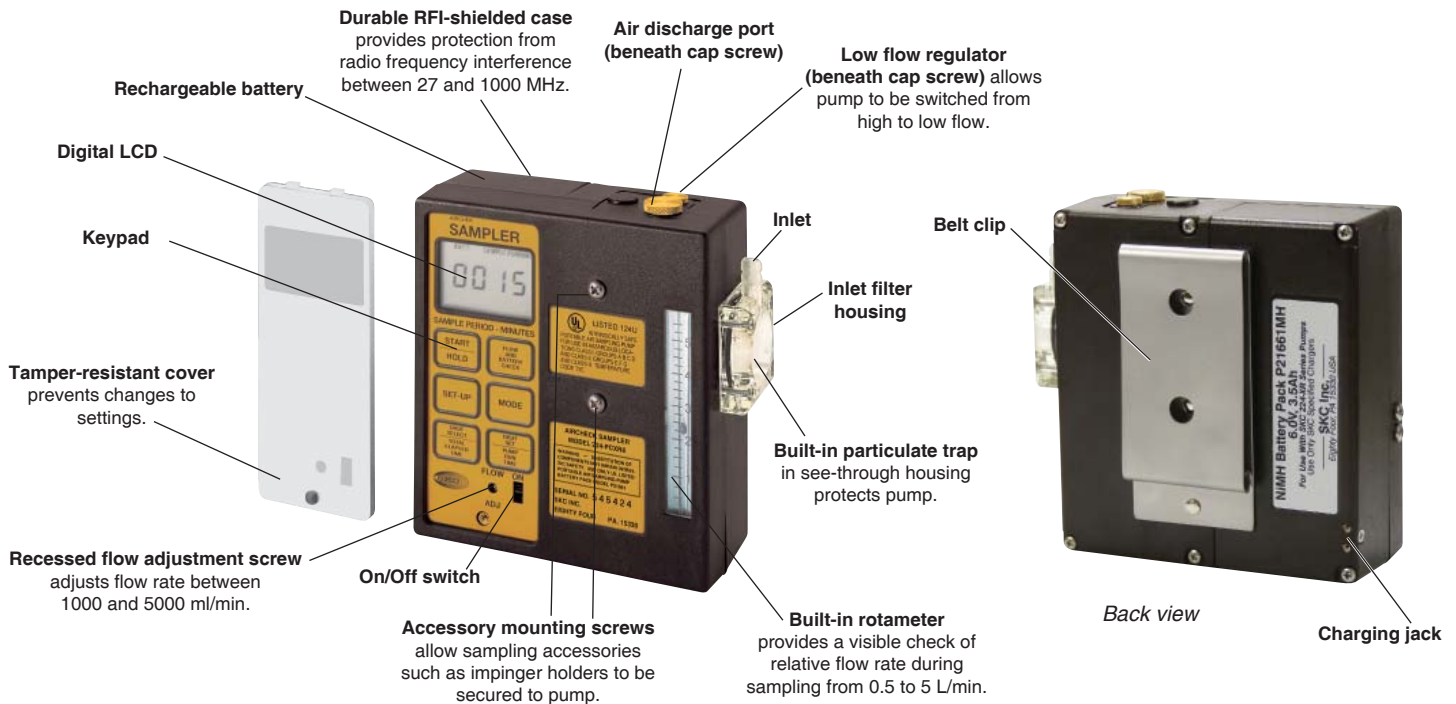

Figure 1. Front and Back Views of PCXR8 Universal Sample Pump
The PCXR8 Universal Sample Pump (Figure 1) is a constant flow (from 5 to 5000 ml/min) air sampler suitable for a broad range of applications. It is ideal for industrial hygiene studies as well as environmental testing.
3. Insert the charging plug end of the cable into the jack on the back of the pump's battery pack (*Figure 1*).
Turn Pump Power On/Off (Figure 1)
1. To ensure the pump is set for high flow, remove the cap screw (*Figure 1*) covering the regulator valve and turn the exposed screw **clockwise** until it stops. Do not overtighten. *See right.*
7. Press Flow and Battery Check to start the pump. Set the flow rate using the flow adjustment screw (*Figure 1*) until the calibrator indicates the method-specified flow rate. Take a minimum of three readings and record the average flow rate, as per OSHA/NIOSH instructions.
- b. **When using impingers, an in-line trap (SKC Cat. No. 225-22 or 225-22-01) is required to prevent fumes from accidentally being drawn into the sampler.** Place the in-line trap between the pump and the impinger. Mount the impinger and trap to the face of the sampler using the accessory mounting screws (Figure 1) or place them in a holster at the worker's waist.
- c. **When using the pump for pressure applications such as bag sampling**, thread the exhaust port fitting supplied with the pump into the air discharge port on top of the pump (Figure 1); hand-tighten only. Using PTFE tubing, connect the inlet of the sample medium (e.g., sample bag) to the exhaust port fitting on the pump. Turn on the pump to collect the appropriate volume of air. Shut off the pump and close inlet on sample medium to stop sampling.
3. With the LCD displaying HOLD, start sampling by pressing Start/Hold (Figure 1). If a delayed start has been programmed, DELAYED START will flash on the LCD and the amount of time remaining until sampling starts will count down. SAMPLE RUNNING will be displayed when the delay sequence ends. Record the start time. The elapsed sampling time will be shown on the LCD.